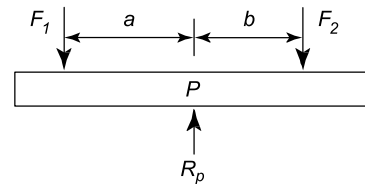

Figure 6.3
Figure 6.3 shows a beam with its support (known as its **pivot** or **fulcrum**) at P , acting vertically upwards, and forces F_1 and F_2 acting vertically downwards at distances a and b , respectively, from the fulcrum.
- The sum of the forces acting vertically downwards must be equal to the sum of the forces acting vertically upwards, i.e. for Figure 6.3, $R_p = F_1 + F_2$
This statement is known as the **principle of moments**. Hence, taking moments about P in Figure 6.3,